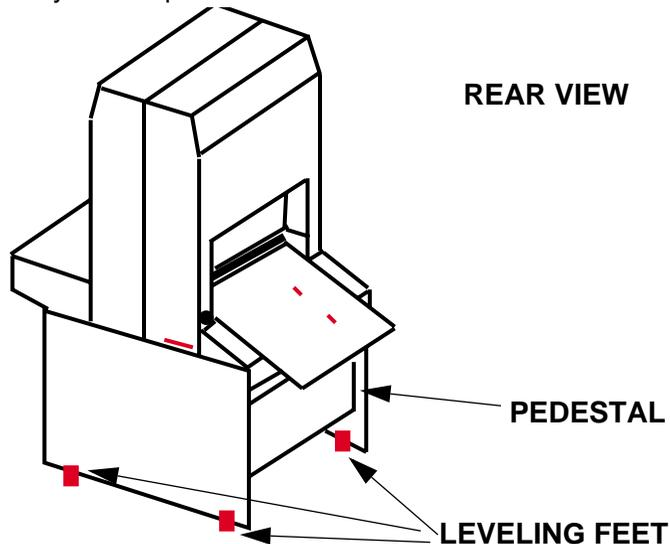

Figure 4-4 Levelling Feet Location
- Step 2. Use the User Maintenance Menu to run the media rollers. See Figure 4-4.
When installing the system and whenever moving it, ***you must correctly place the system and level it at its new location***, by following this procedure. See Figure 4-4 for the location of the leveling feet in the pedestal.